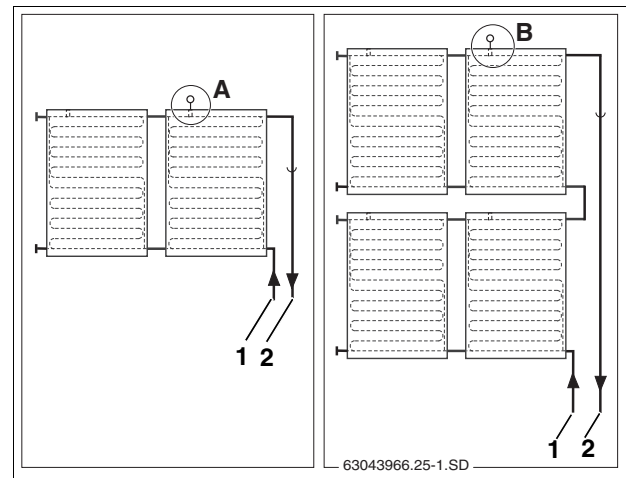

Fig. 47 Collector sensor installation location (schematic)
Observe the installation location for single or dual row collector systems (Fig. 47).
The collector sensor must be installed in the collector connected to the supply line (Fig. 47, [2]).
- Location (Fig. 47, [A]) for single row collector systems.
- Location (Fig. 47, [B]) for multi-row collector systems.